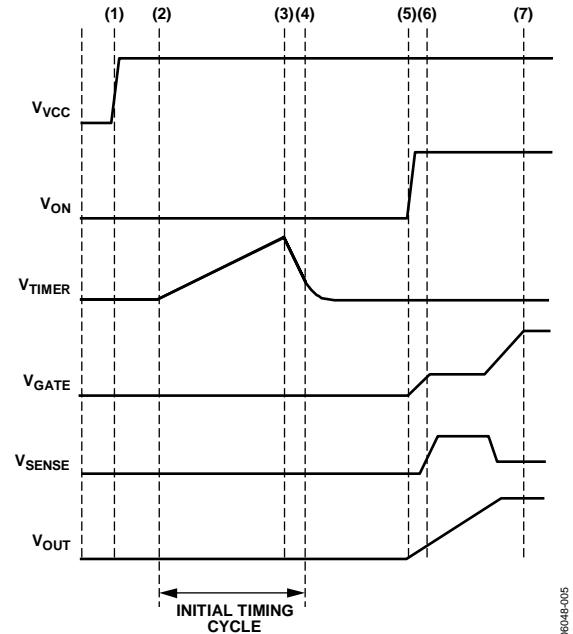

Figure 34. Startup (ON Asserts After Power Is Applied)
At Time Point (6), V_{GATE} and V_{OUT} have reached their full potential, and the load current has settled to its nominal level. Figure 34 illustrates the situation where the ON pin is asserted after V_{CC} is applied.